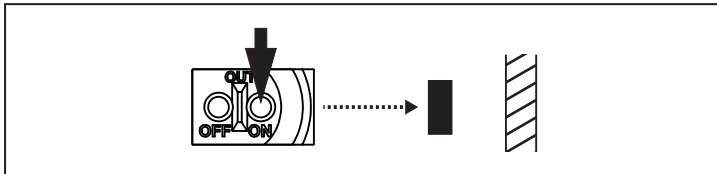

Fig. 1: Button [OUT ON]
- ▶ Position the object (see figure 1) and press [OUT OFF] > 2 s.